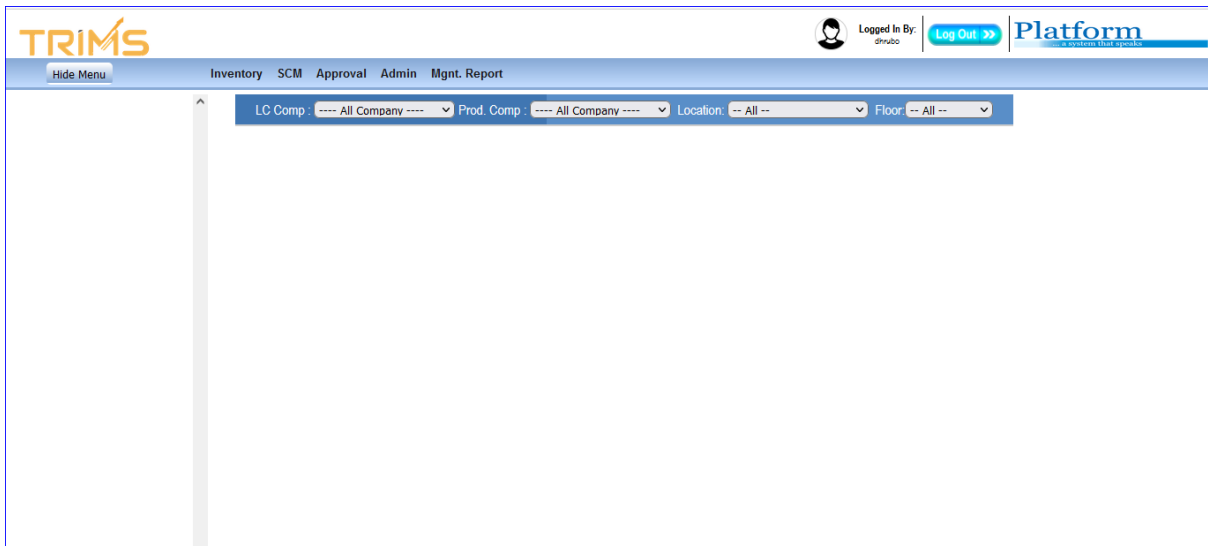

Figure 13: First Page of Logic ERP after Login.
A huge number of options are present in Logic ERP in the 1st page after login. Options can be customized as per users' requirement. In Figure 13, a total of 5 options is appeared in the Menu Bar. From there, only 3 options i.e., Inventory, SCM and Mgt. Report is required as per my Job Description (JD).